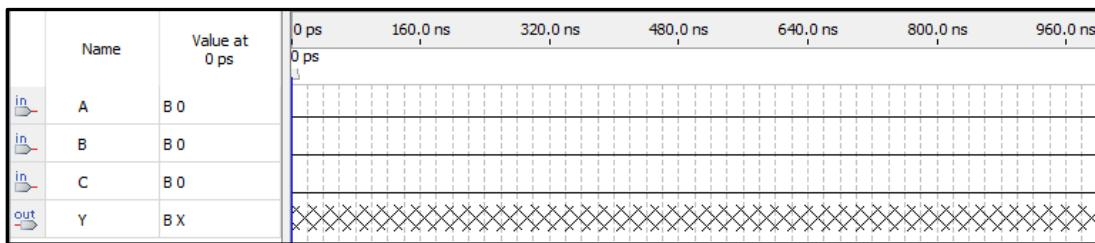

Figure 7: VWF with inputs and outputs
- 2) You should now see the inputs and outputs in the vector waveform file window. Save this file. The window should look like Figure 7.